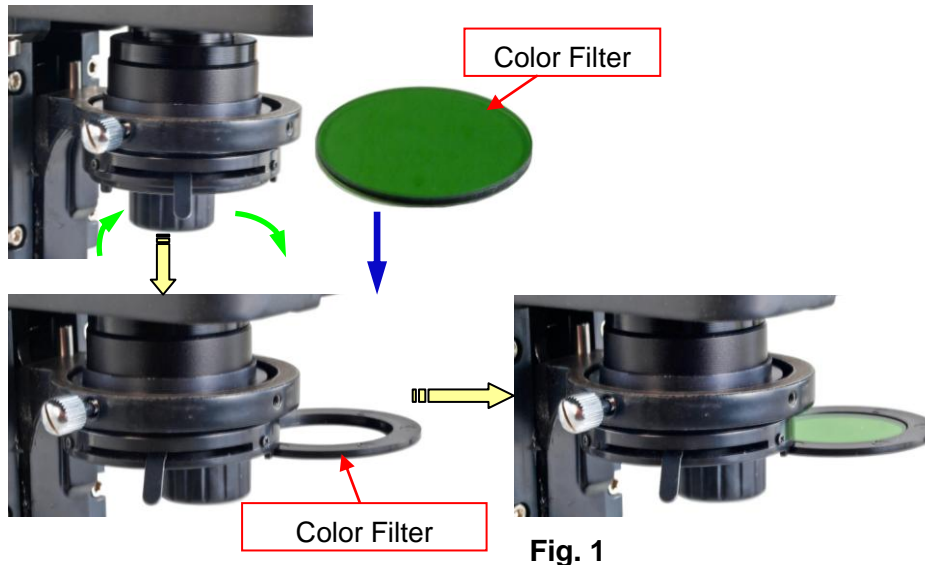

Fig. 1
- 2) Place the filter into the holder as shown in **Fig. 1**, swing the holder in.